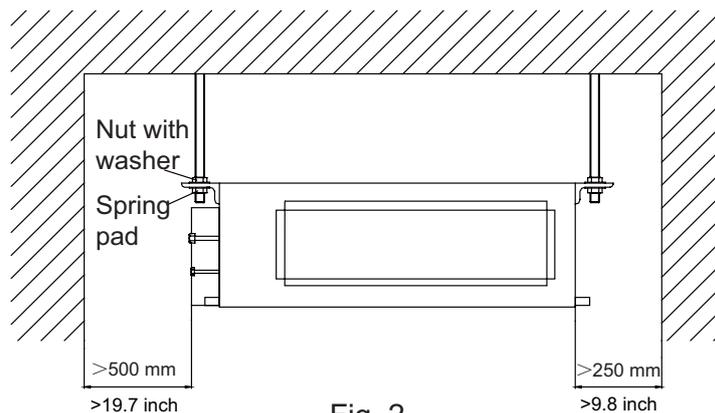

Fig. 2
- 4) Ensure the installation space shown in Fig.2 is adequate for maintenance access..